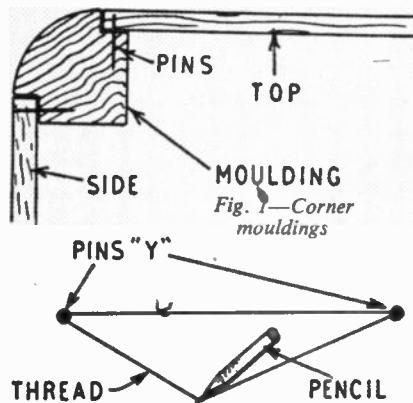

Fig. 3—Drawing the oval.
A piece of thread is now taken, and placed round both pins (Y). The thread is tied to form a loop of such a length that it will extend 1in. beyond (Y), to (Z). A pencil is now placed with its point inside the loop, and is moved round, keeping the thread taut as shown in Fig. 3. This will mark out the large oval, which has to be sawn to provide the required aperture. It is necessary to adjust the length of the thread loop quite accurately, or the oval may be too small, or may go beyond the top of the panel.